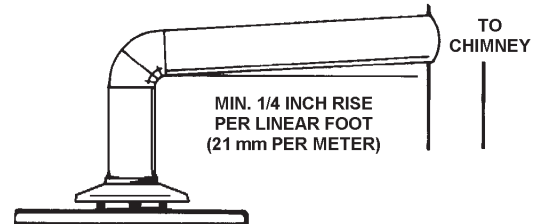

**FIGURE 13.**
- Place the vent pipe over the draft hood. With the vent pipe in position, drill a small hole through both the vent pipe and draft hood. Secure them together with a sheet metal screw. See Figure 13.